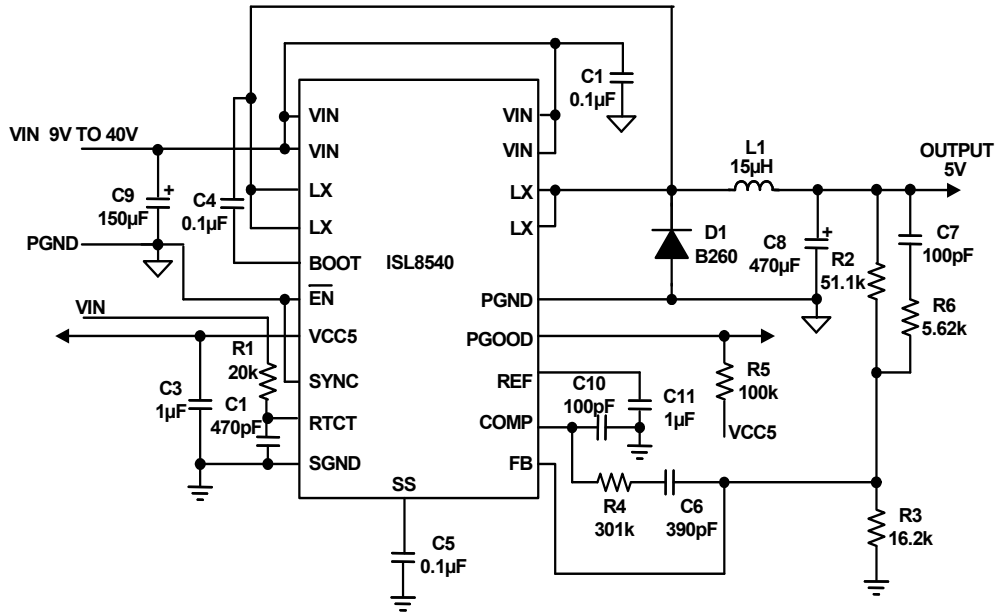

FIGURE 2. TYPICAL SCHEMATIC FOR ISL8540 (5V  $V_{OUT}$ )
**Typical Performance Curves** Circuit of Figure 2,  $V_{IN} = 24V$ ,  $\overline{EN} = 0V$ ,  $FS = 500KHz$ ,  $V_{OUT} = 5V$ , unless otherwise noted. Typical values are at  $T_A = +25^\circ C$ .
**Typical Performance Curves** Circuit of Figure 2,  $V_{IN} = 24V$ ,  $\overline{EN} = 0V$ ,  $FS = 500kHz$ ,  $V_{OUT} = 5V$ , unless otherwise noted.
**Typical Performance Curves** Circuit of Figure 2,  $V_{IN} = 24V$ ,  $\overline{EN} = 0V$ ,  $FS = 500KHz$ ,  $V_{OUT} = 5V$ , unless otherwise noted. Typical values are at  $T_A = +25^\circ C$ . (Continued)